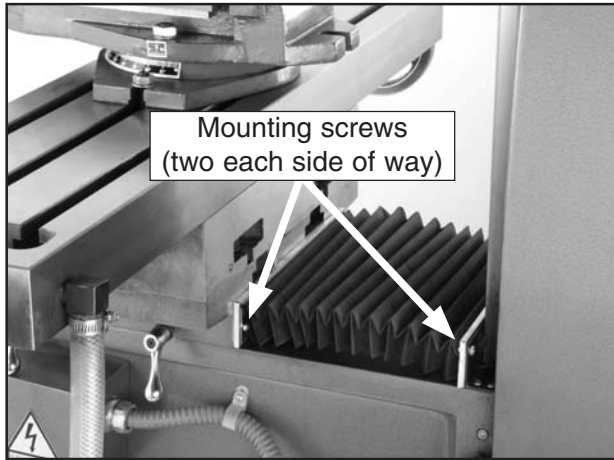

Figure 16. Way cover installed.
1. Use the four screws from the way cover mounting location to install the way cover to the rear of the saddle (see **Figure 16**).